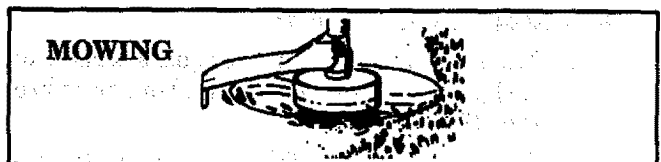

Figure 14
3. **MOWING**— **Figure 14**. Your trimmer is ideal for mowing in places conventional lawn mowers cannot reach. In the mowing position, keep the line parallel to the ground. Avoid pressing the head into the ground as this can scalp the ground and damage the tool.